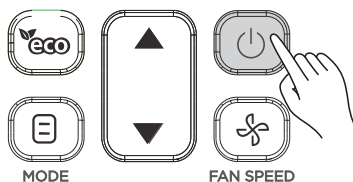

Figure 3.3
1) Press  (see Figure 3.3), and the remote controller displays the  icon on its screen. Indoor unit starts to run;